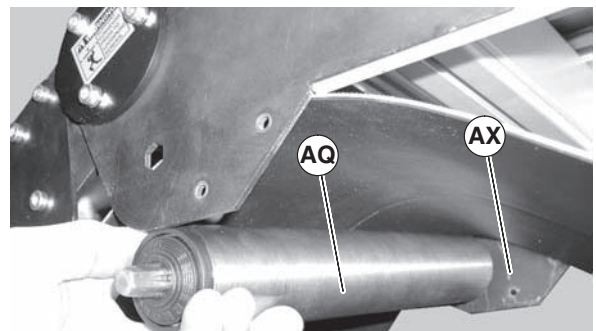

Figure 31
5. Install spring loaded return pulley (Figure 31, item AQ) into knuckle plate (AX).